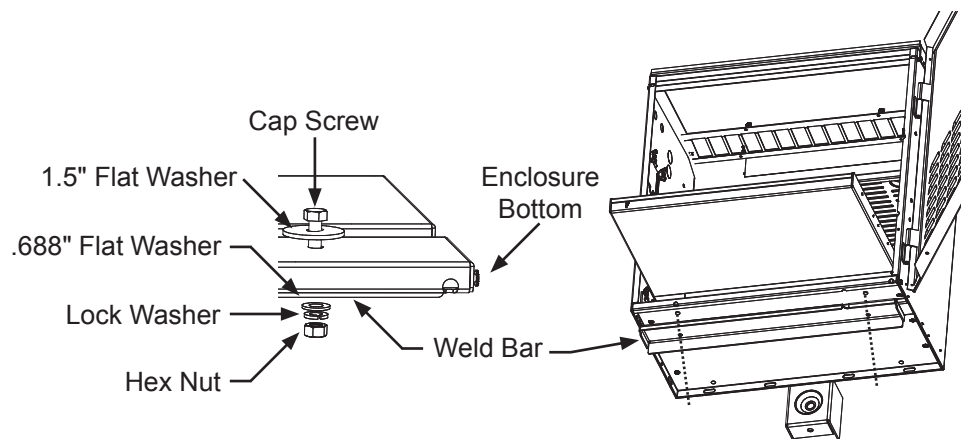

Fig. 2, Hardware Stackup
3. Install the weld-bracket on the bottom of the enclosure using the cap screws, flat washers, lock washers and hex nuts (See Fig. 2).